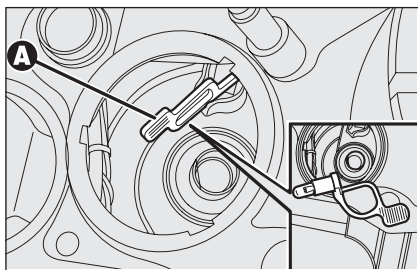

fig. 24
- press tab **A-fig. 24**, remove the bulb and replace it;